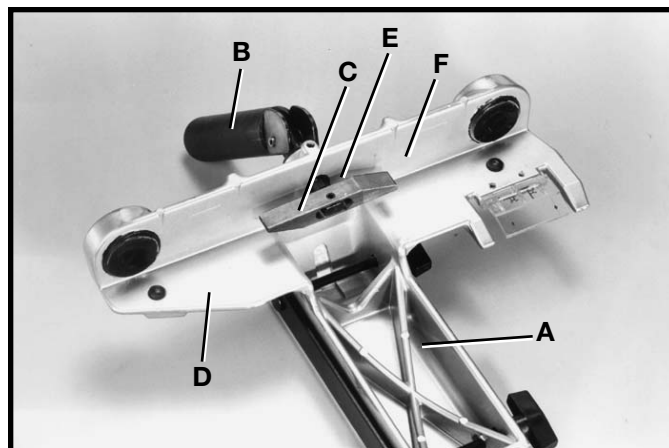

Fig. 70
1. Turn fence body (A) Fig. 70, upside down and lay it on a table or bench. Push handle (B) in against fence body. Make certain the surface (C) of clamp bracket is parallel to the face (D) of the fence body, and that the inside edge (E) of the clamp bracket is parallel to surface (F) of the fence body. Turn handle (B) Fig. 70, if necessary.